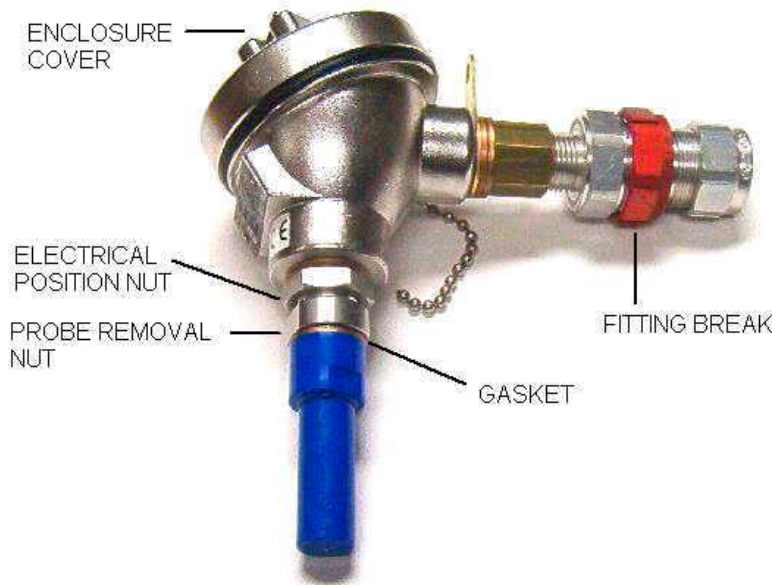

Figure 2: Hygrometer Probe Assembly
- Remove the enclosure cover (see figure 2) by unscrewing it in a counter-clockwise direction.